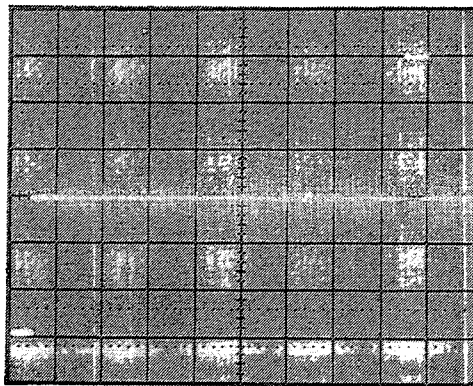

Figure 4-11
24. Using the Pulse Generator Pulse Delay Control, set the delay between the negative and positive going pulses to 4.5ms as shown (Figure 4-11) and check that counts register on the 3776 Phase display.